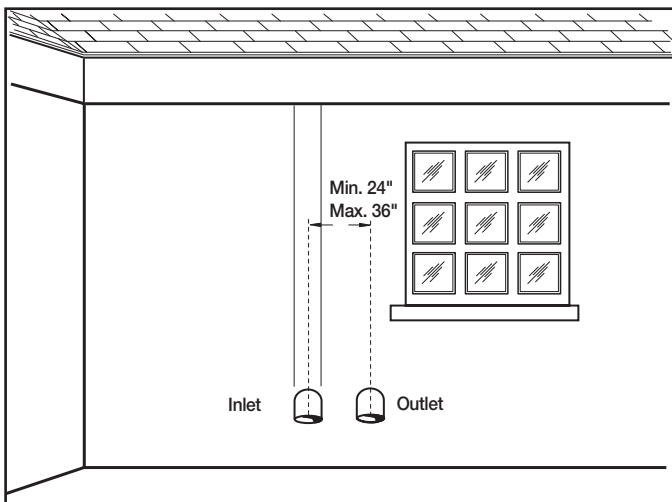

Figure 9
1. Cut two 4 1/2" (11.4 cm) diameter holes (for a 4" (10.2 cm) diameter pipe), 6 1/2" (16.5 cm) diameter holes (for 6" (15.2 cm) diameter pipe) in the wall. Vent terminals must be a minimum of 24 inches (61 cm) and a maximum of 36 inches (91.4cm) horizontally apart (See Figure 9).